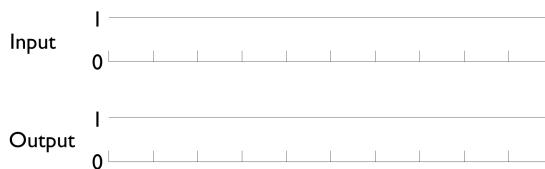

Figure 7.10: Falling Edge Contact
- **Falling Edge** contacts turn ON for one scan when the related bit transitions from ON to OFF. Draw the timing diagram for a Falling Edge contact in Figure 7.10